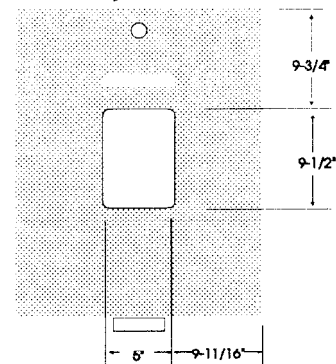

Fig. 3. Cut opening in door for Smart Target clearance. Cover with thin panel.
2. Cut a hole (5" wide x 9-1/2" high) in the center of the door. The top of the hole should be 9-3/4" from the top edge (See Figure 3). Use the paper template included in the kit. (This will provide clearance for the Smart Target board and the Missed Dart Detector on the back of the darthead assembly.)